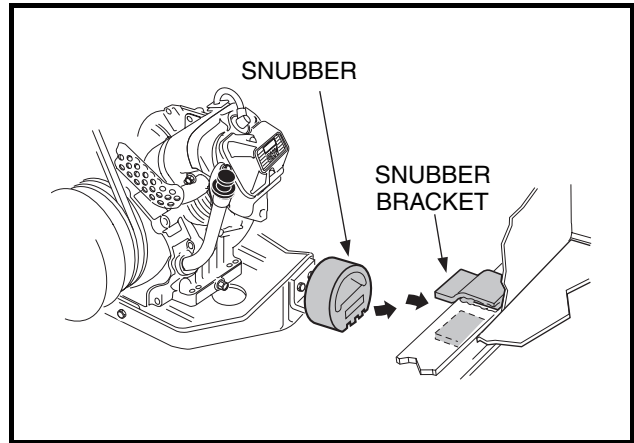

Figure 16-39 Snubber
12. Remove the blocks from under the engine and roll the powertrain into position under the vehicle. Then lift the front of the powertrain and place the snubber into the snubber bracket in the vehicle frame (Figure 16-39, Page 16-15).